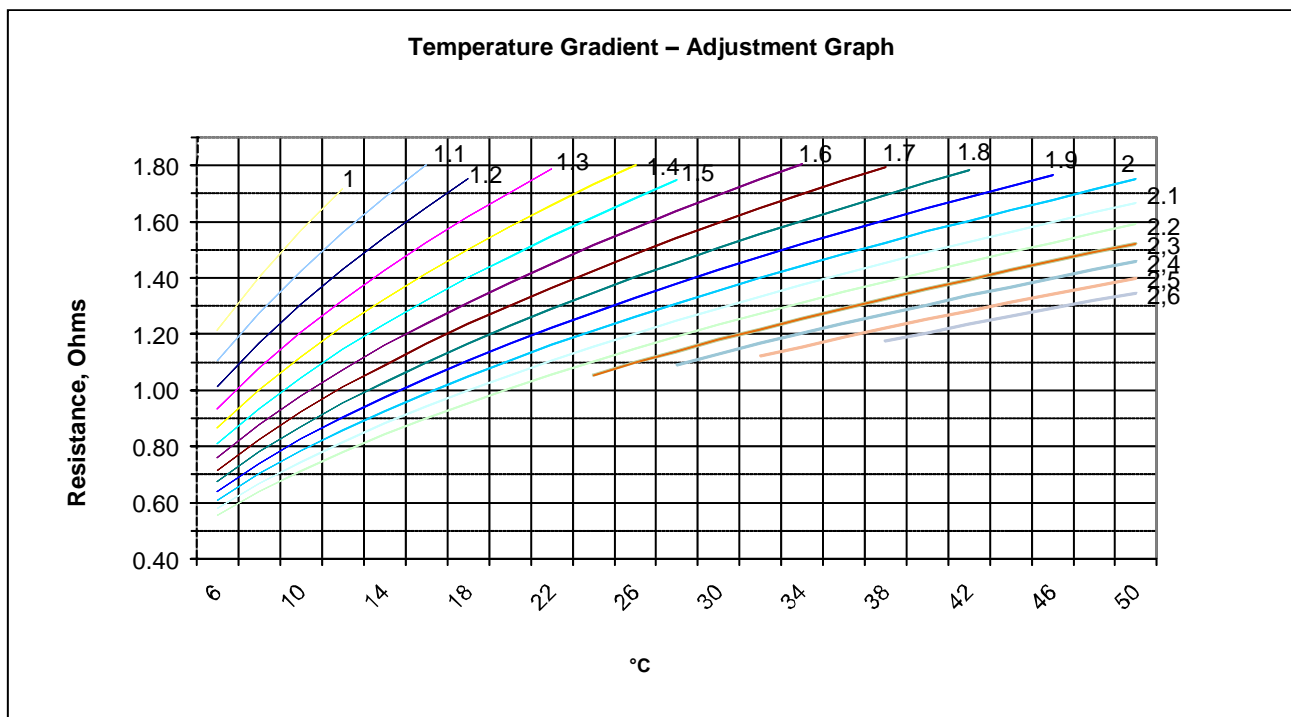

Figure 3 – Temperature Gradient Graph
3. Use the graph in Fig.3 for the CT current and gradient to determine the required resistance setting in Ohms. Take note of this value.
The AKM 345 TD50(5 AMP) option allows for the input of up to 5 amps winding temperature simulation current without the expense or additional wiring required by an external matching unit. It is available with up to 4 switches. The 5 amp option employs an internal CT which accepts 5 amps at the primary and outputs 2.2 amps at the secondary. The secondary current is in parallel with a standard TD50 matching resistance and heater. For temperature rise calculations please refer to Figure 3.